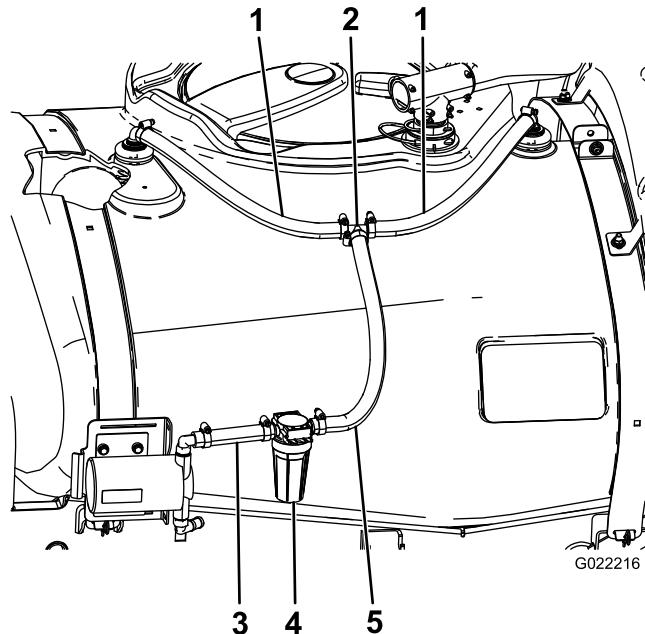

Figure 11
1. Attach the 48 cm (19 inch) hoses to the previously installed rinse nozzle hosebarbs using 2 hose clamps (Figure 11).
2. Attach the loose ends of the hoses to the tee fitting with 2 hose clamps (Figure 11).
1. Attach the long end of the rinse-filter hose to the tee fitting with a hose clamp (Figure 11).
2. Attach the other end of the rinse-filter hose to the upper hosebarb on the rinse pump with a hose clamp (Figure 11).